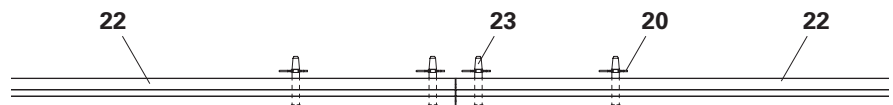
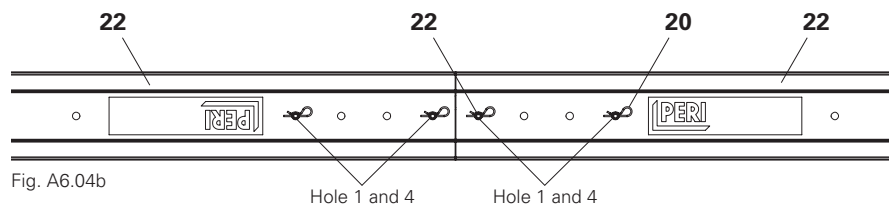

Fig. A6.04a
Fig. A6.04b
3. Insert 4x bolts $20 \times 140 \text{ mm}$ (**23**) into the 1st and 4th holes of the Alu Beams MP MB 24 (**22**) and secure with cotter pins (**20**). (Fig. A6.04a + Fig. A6.04b)